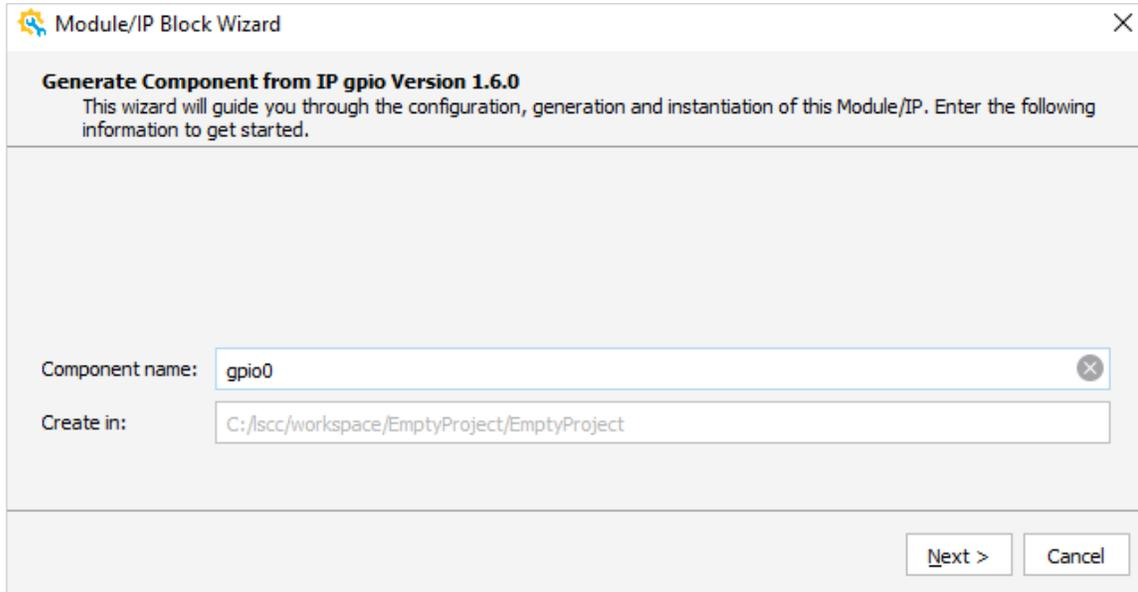

Figure 2.17. Module/IP Block Wizard – Generate Component from Module gpio Version 1.6.0
- From the **IP on Local** tab, select a desired IP, such as GPIO. Double-click the IP module, or drag and drop the IP module to the **Schematic** view. A Module/IP Block wizard pops up (Figure 2.17).